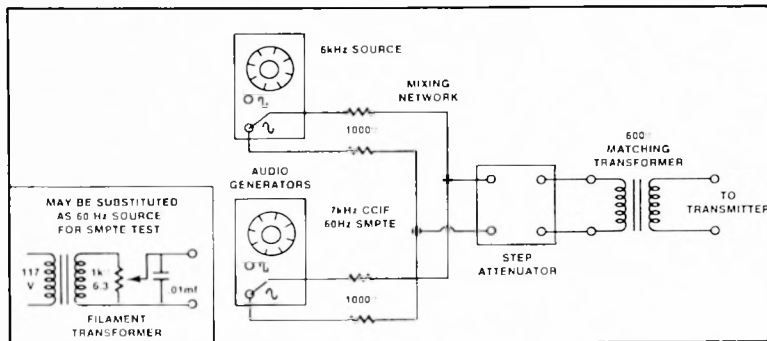

Fig. 58. Two-tone Source for Intermodulation Tests
1. Set up a two tone source connected to one channel of the studio console using the equipment shown in *figure 58*.